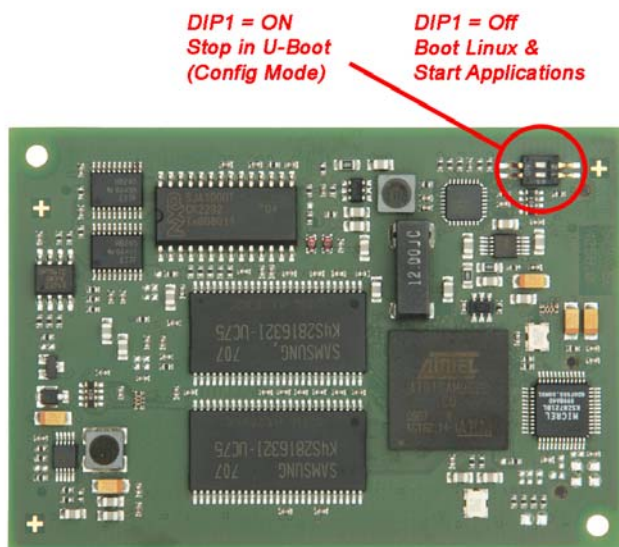

Figure 5: Positioning and meaning of DIP-Switch 1 on the ECUcore-9G20
| 1 | DIP1 of ECUcore-9G20 = "Off" AND Connection "/BOOT" = High (pushbutton S406 on the Development Board not pressed) | DIP-Switch 1 on the ECUcore-9G20 and module connection "/BOOT" are electrically connected in parallel. Only if both elements are not active (DIP switch 1 open, module connection "/BOOT" not active), the Signal "/BOOT" is at level H for ECUcore-9G20 and releases the Linux Autostart. The position of DIP-Switch 1 on the ECUcore-9G20 is shown in Figure 5, the position of connection "/BOOT" on the module pin connector is defined in the Hardware Manual ECUcore-9G20 (Manual no.: L-1255). |
- (1) **DIP1 = "On" or /BOOT = "Low"** DIP1: see Figure 5, /BOOT: see Manual L-1255, Development Board: "/BOOT" = pushbutton S406
Figure 5 shows the positioning and meaning of DIP-Switch 1 on the ECUcore-9G20. This DIP-Switch might be hard to access if the module is built in. Thus, the Portpin of the processor that is connected to the switch is available as connection "/BOOT" on the pin connector of the ECUcore-9G20 (see Hardware Manual ECUcore-9G20, Manual no.: L-1255).